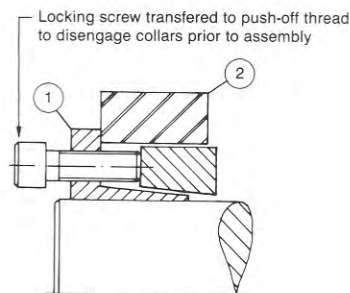

FIG. 29
- 2 Loosen all locking screws by a minimum of two turns and transfer at least (3) screws to the clamp flange-push-off threads in order to keep parts (1) and (2) spaced apart for easy insertion of Locking Assembly. See Fig. 29.
- 3 Relocate locking screws used for separating parts (1) and (2).